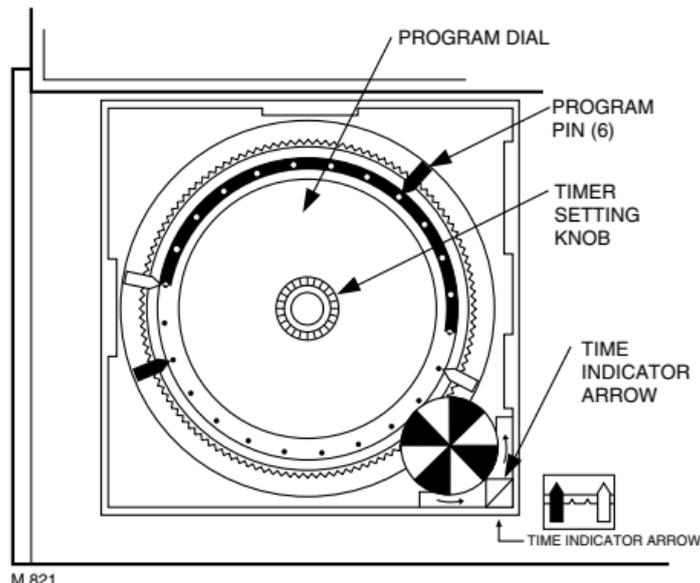

Fig. 3—Setting the timer.
- When time is correctly set, the time indicator arrow (triangle shape) will point to the correct time and corresponding daytime (light) or night-time (dark) band of the program dial. See Fig. 3